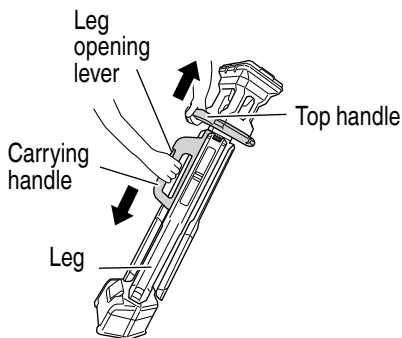

Fig. 10
- (1) Hold the top handle and carrying handle with both hands, then push down the leg opening lever to lower the carrying handle and open the legs until they lock in place. (Fig. 10)